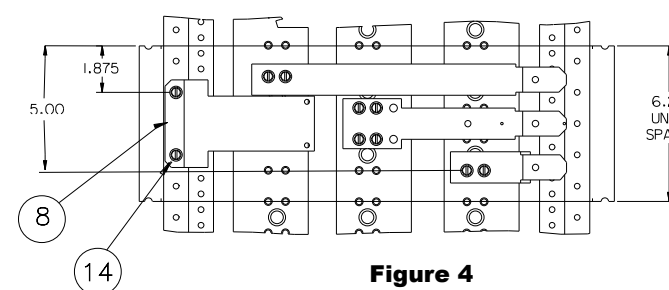

Figure 4
6. Reference fig. 4 - Installing the breaker mount. Locate one 0.228" hole on the Z-rail 1-7/8" down from the top of the 6-1/4" of unit space selected. Orient the breaker mount (item 8) as shown in fig. 4. Insert one 1/4-20 X 1/2" screw (item 14) through the hole in the breaker mount and then into the 0.228" hole in the Z-rail and tighten securely. Insert another 1/4-20 X 1/2" (item 14) screw through the second 0.312" diameter hole in the mounting bracket and then into the 0.228" diameter hole in the Z-rail and tighten securely.